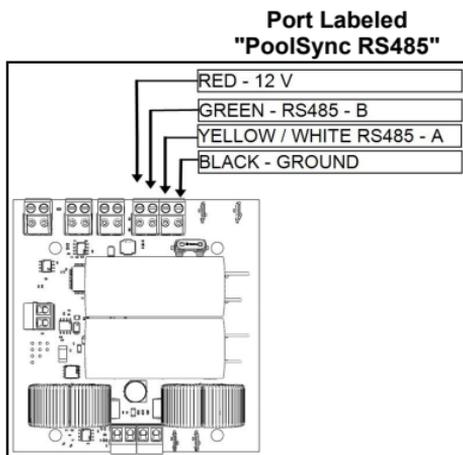

Figure 2
4. There is one (1) - four position connector and two (2) - two position connectors located on the front of the board for wiring compatible devices. Remove the blue four (4) position connector by gently pulling prying it off the control board.
5. Connect the stripped end of the wires to the corresponding terminal on the control board connector as shown in the diagram. See **Figure 2**.